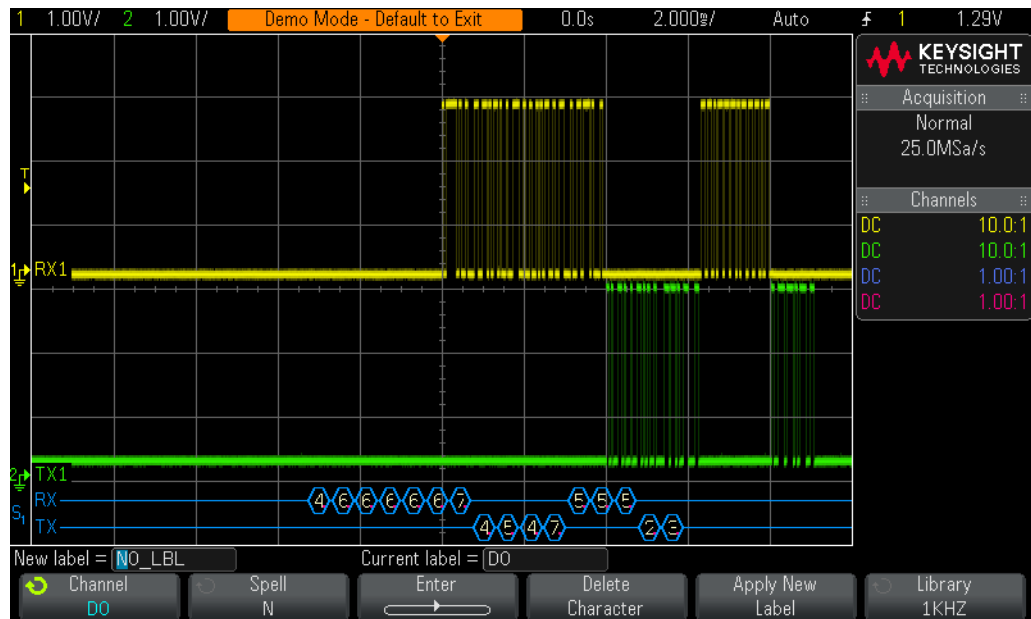

Figure 61 Decoding the RS232/UART serial bus.
You should now see RS232/UART decoding of these signals on your scope's display similar to **Figure 61**, but we still haven't established stable triggering. The scope is still triggering on any rising edge of channel-1 (default trigger condition). Let's now set up the scope to trigger when the transmit data signal (TX) is equal to 4D_{HEX}.